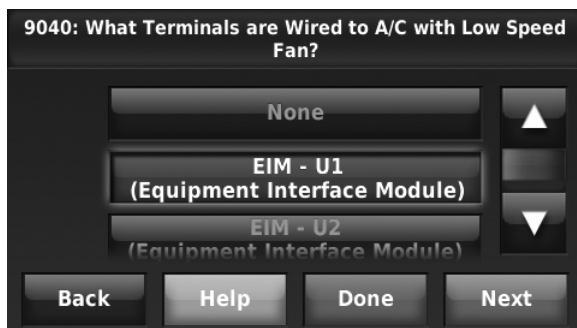

Fig. 238.
- Select the terminals wired to the A/C with Low Speed Fan or Hot Gas Bypass. See Fig. 238.